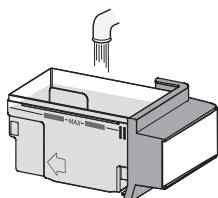

Figure 2
3. Open the lid and fill the water tank with **fresh cold tap water to the MAX mark each time you begin to cook.** (Figure 2) Do not fill the water tank over the MAX mark.